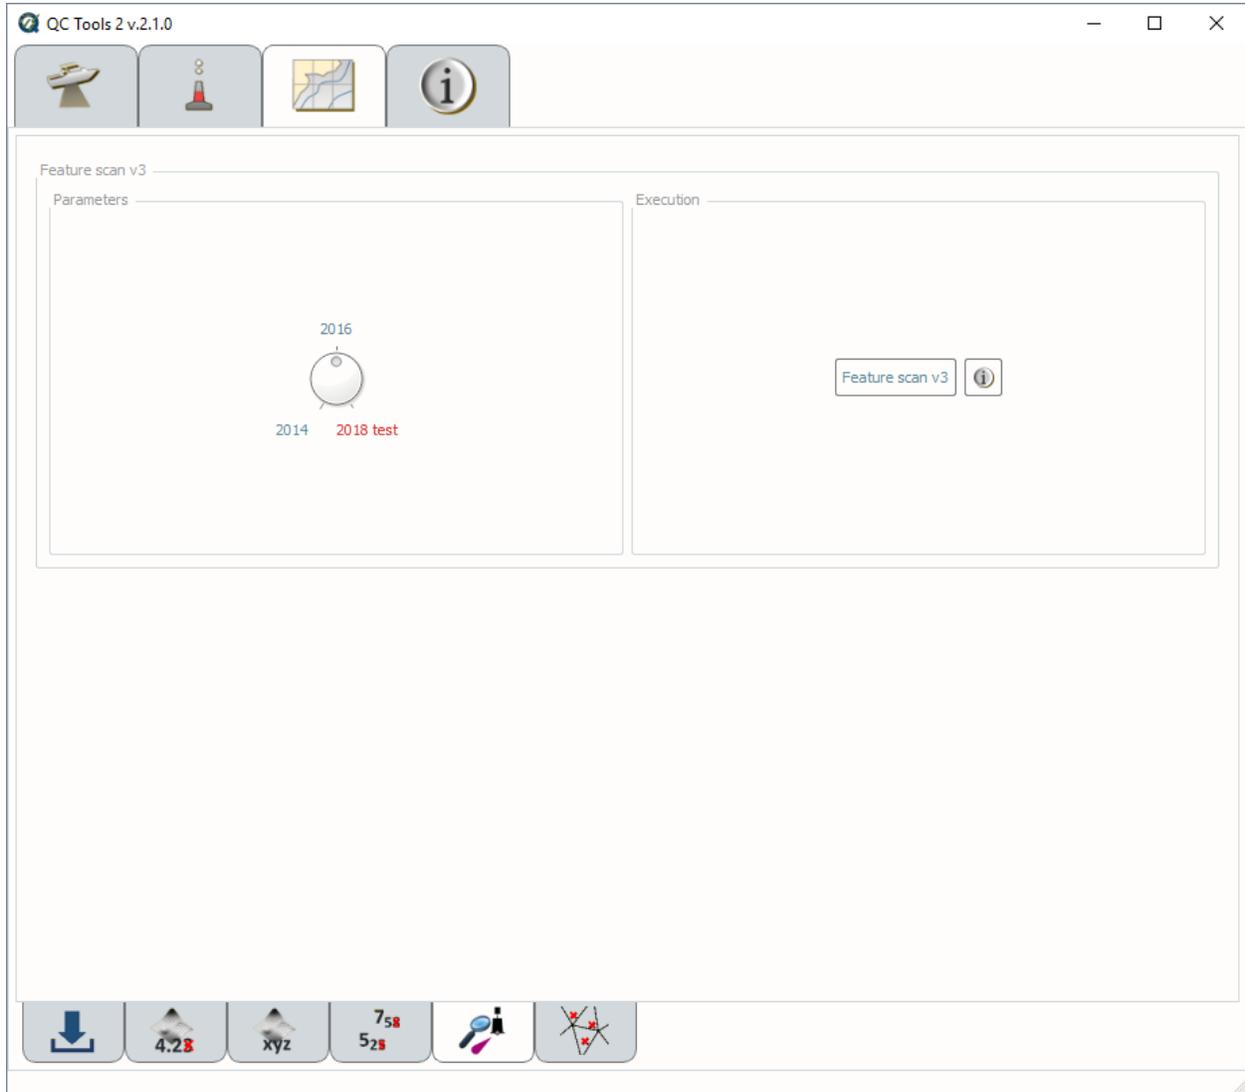

Fig. 2.46: Feature scan's interface.
- In **Parameters** (Fig. 2.46, left side), turn the knob to select the required year of HCell Specification. Currently, the '2018 test' is duplicative to 2016.
- In **Execution** (Fig. 2.46, right side), click **Feature scan v2**.